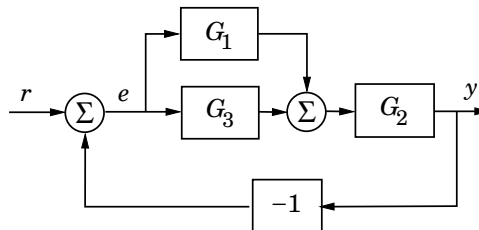

Figure 7.3 A system of parallel, series and feedback parts.
- Calculate the transfer function from r to e in Figure 7.3.